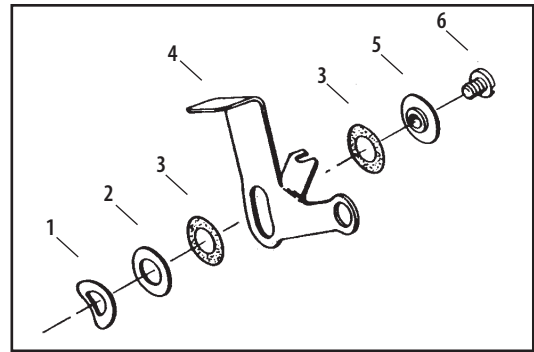

Figure 1
1. For Super E or G carburetors, install the fast idle lever assembly as shown in **Figure 1**. Apply a small amount 243 blue Loctite to the threads of the screw and thread into the backplate. Be careful not to overtighten.